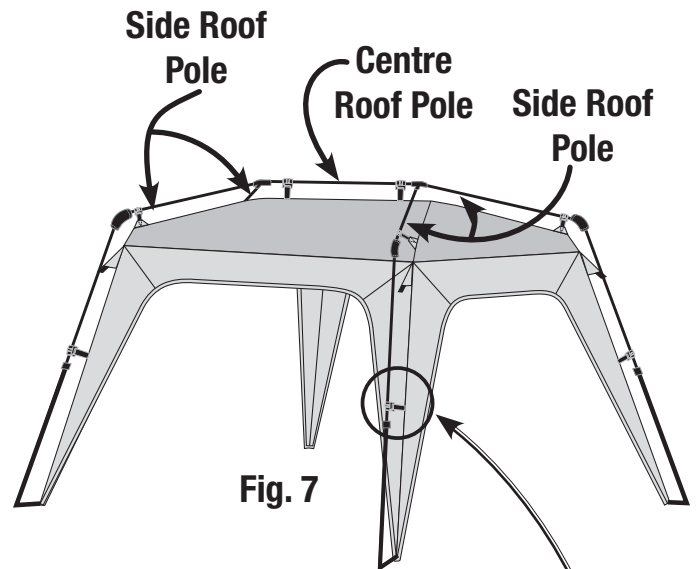
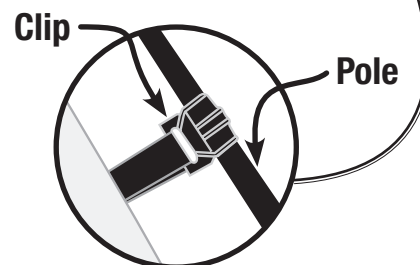

Fig. 7
Fig. 8
- Verify the clips along the edges of the shelter are properly attached to the frame poles. (Fig. 7 and Fig. 8)